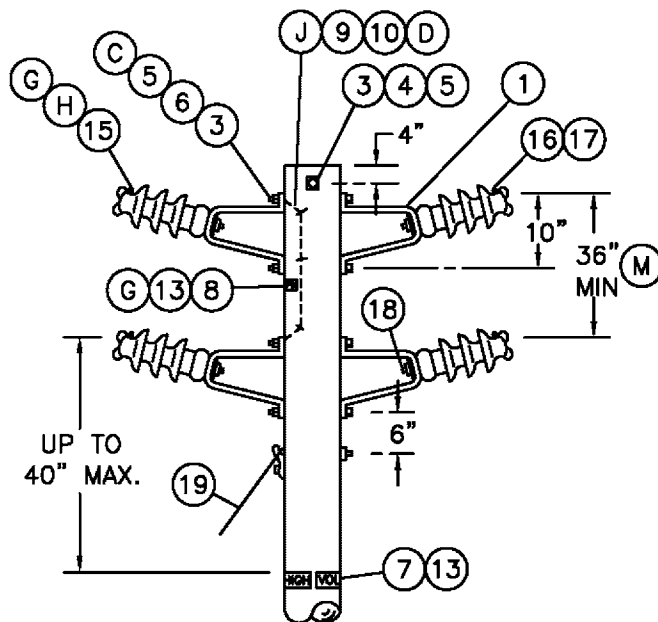
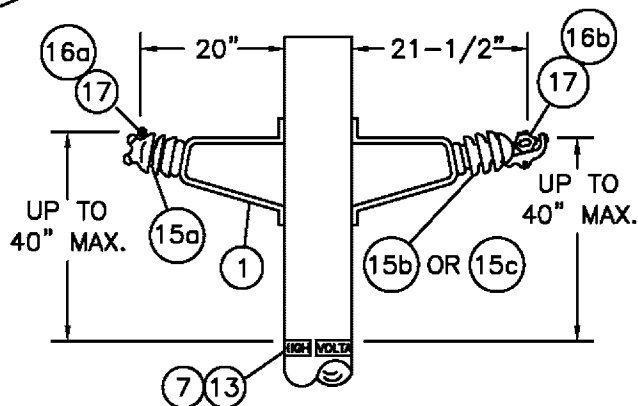

FIGURE 2
FIGURE 4
- (C) INSTALL DOUBLE COIL SPRING WASHER SO IT CONTACTS BRACKET.
- (D) BONDING OF THE BRACKETS IS ONLY REQUIRED WITHIN HEAVY CONTAMINATION AREA, DISTRICT 1 ON PAGE 287. USE BONDING PROVISIONS ON BRACKETS, IF THEY ARE FURNISHED.
- (F) SUBSTITUTE A CLASS 55-3 INSULATOR (STOCK NO. 429216) FOR NEUTRAL IDENTIFICATION.
- (G) IF A SMALLER LINE POST INSULATOR IS NOT AVAILABLE FOR NEUTRAL AS COMPARED TO THOSE ON THE PHASE POSITION, THE "PN" SIGN SHALL BE USED TO IDENTIFY THE NEUTRAL.
- (H) RESISTANCE GLAZE (RG) CLAMP TOP POST INSULATORS (STOCK NO 428952) SHALL BE USED WHEN AVAILABLE ON TRIAL APPLICATIONS ON PHASE CONDUCTORS IN HEAVY CONTAMINATION AREAS AS DEFINED ON PAGE 287 AND ONLY USING FIGURE 2 CONSTRUCTION. CONDUCTOR CLAMPS ARE REQUIRED WITH "RG" INSULATORS. INSTALL A "DO NOT WASH" SIGN ABOVE THE POLE TAGS IN SIGHT OF ON-COMING TRAFFIC.
- I. USE FIGURES 2 OR 3 WHERE NEUTRAL MAY BE REQUIRED IN THE FUTURE. CONSULT WITH DISTRICT ENGINEER.
- (J) TO PREVENT RADIO INFLUENCE VOLTAGE (R.I.V.), DO NOT LOCATE BOND WIRE STAPLES WITHIN 1" OF BOLTS.
- (L) ORDER (ITEM 18) FOR HPI ONLY.
- (M) FOR SPAN LENGTHS GREATER THAN 250', THE CONDUCTOR SPACING IS DETERMINED BY THE FORMULA:
- N. AN INSULATOR MOUNTED DIRECTLY ON THE SIDE OF A POLE SHALL BE CONSIDERED AS IN A HORIZONTAL POSITION (SEE FIG. 4). AN INSULATOR MOUNTED DIRECTLY AT THE TOP OF THE POLE IN A VERTICAL POSITION SHALL BE CONSIDERED AS IN A VERTICAL POSITION (SEE G.O. 95 RULE 54.11 A).